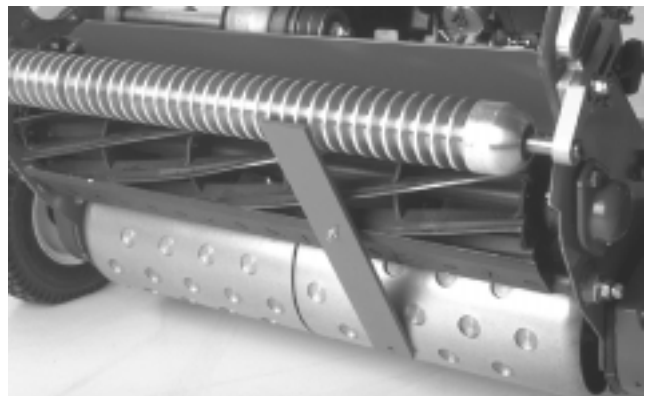

Figure 13
4. Hook screw head on cutting edge of bedknife and rest rear end of bar on rear roller (Fig. 13).